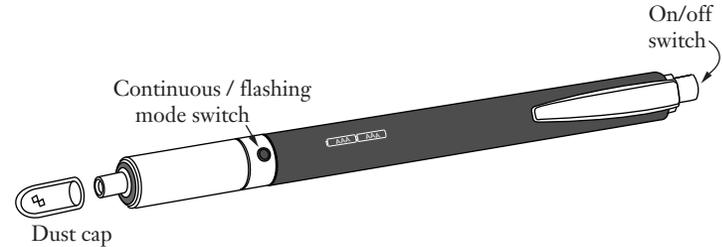

Figure 1
1.1 The Corning Cable Systems VFL-350 emits either continuous or 3 Hz flashing visible laser light at a wavelength of approximately 635 nm to perform continuity checks and locate faults in both multi- and single mode fibers optical fibers and components (Figure 1).